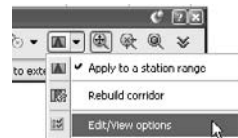

Figure 10.11
7. Use the Override Station Range pull-down menu (shown in Figure 10.11) to select Edit/View Options. The View/Edit Corridor Section Options dialog will appear.